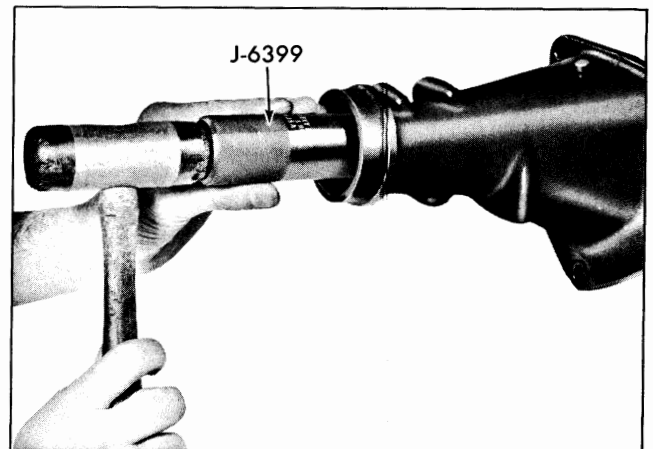

Fig. 7-27 Removing or Installing Bushing with J-6399
2. Using tool J-6399, drive bushing from rear into case extension (Fig. 7-27).
1. Using tool J-6399, drive bushing, from rear of transmission, until end of bushing is slightly below counterbore for oil seal (Fig. 7-27).